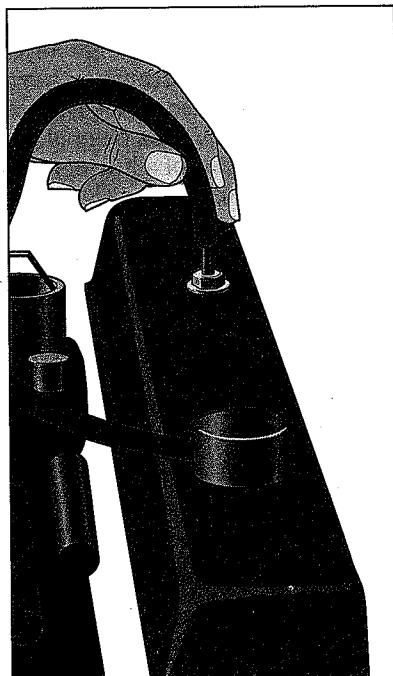

Figure 13-7:
- **If your engine is carbureted,** look for a $\frac{3}{8}$ -inch diameter hose that leads from the bottom area of the carburetor to the top of the valve cover or to the oil filler hole (see Figure 13-7). If your engine has *both*, you want the hose that does *not* lead to the oil filler hole.